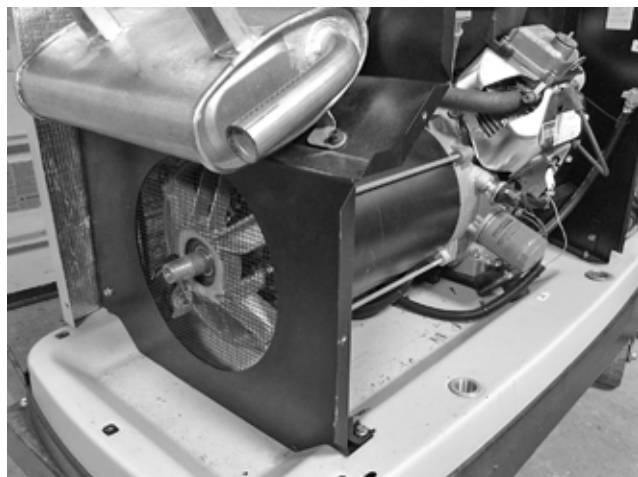

*Figure 260.**Figure 261.*
8. **Remove Rotor Bolt:** Using a 9/16" socket, remove rotor bolt. Figure 260.